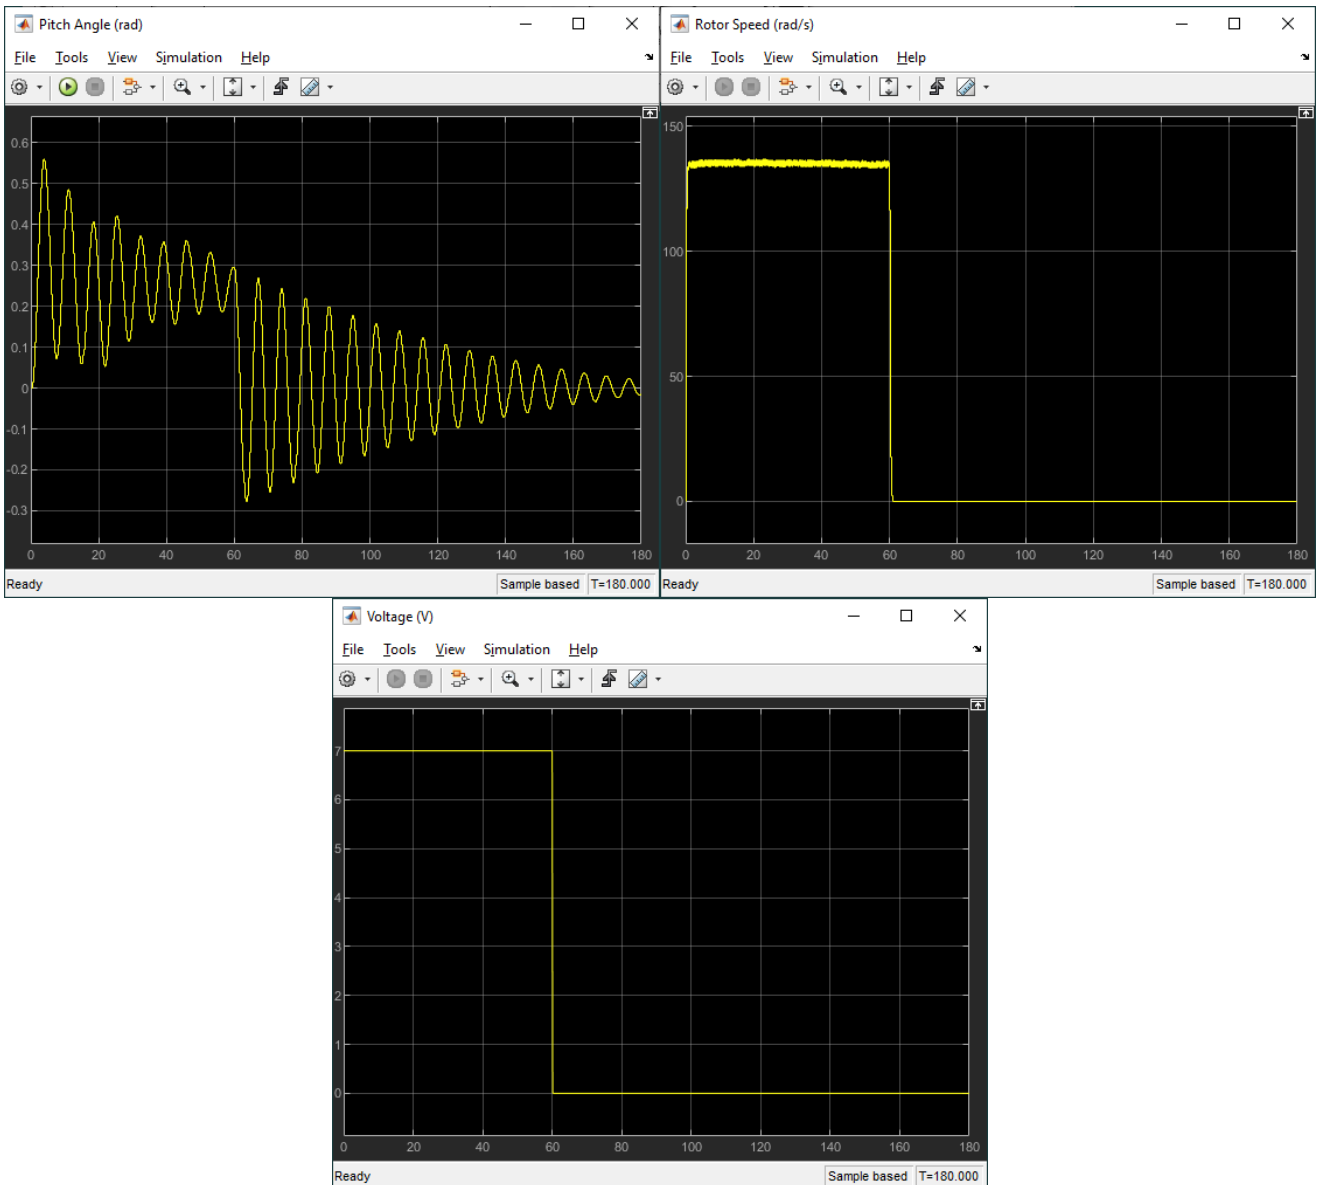

Figure 2 – Aero 2 step response
- Build and run the *q\_aero2\_pitch\_step.slx* Simulink model in QUARC to apply the step to the front rotor, i.e., motor 0. The model will stop automatically after 180 sec. The response should look similar as shown in Figure 2.